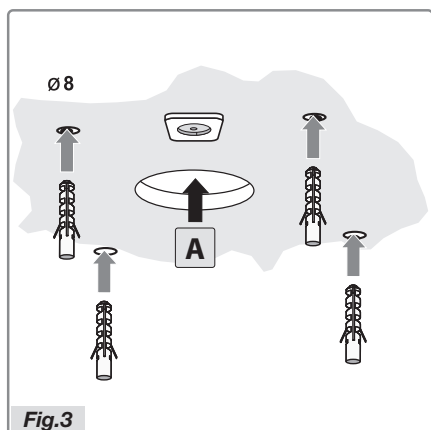

Fig.3
- Form the air outlet opening A (Fig.3).